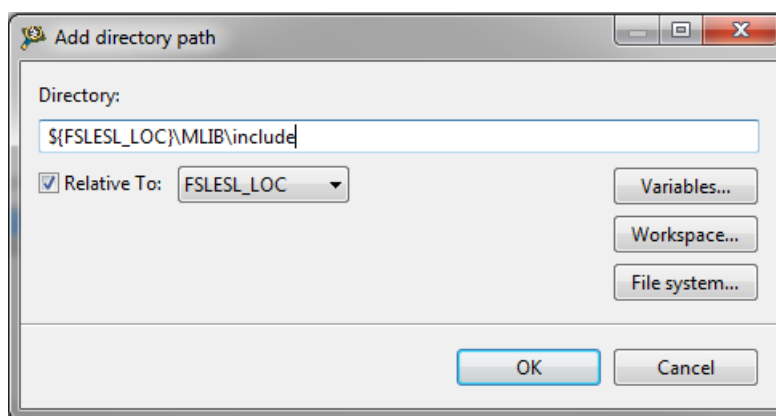

Figure 1-12. Library include path addition
14. Tick the box Relative To, and select FSLESL_LOC next to the box. See Figure 1-12. Click OK.